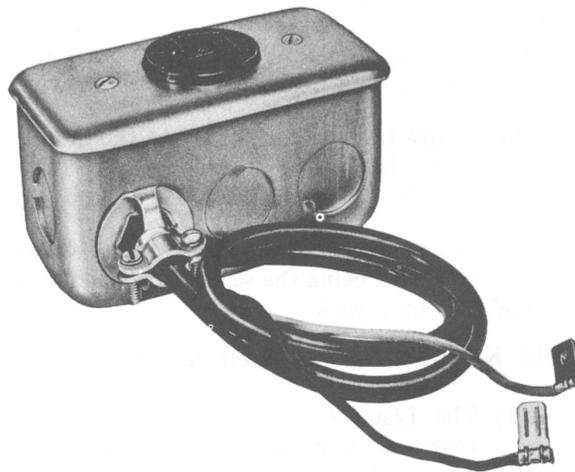

Fig. 8 — KS-19580, List 51 Receptacle Assembly
10.03 In multiple installations, a KS-19580, List 51 receptacle assembly (Fig. 8) must be used in conjunction with a KS-19261 light control unit if automatic light control is desired. Install the receptacle assembly as follows: